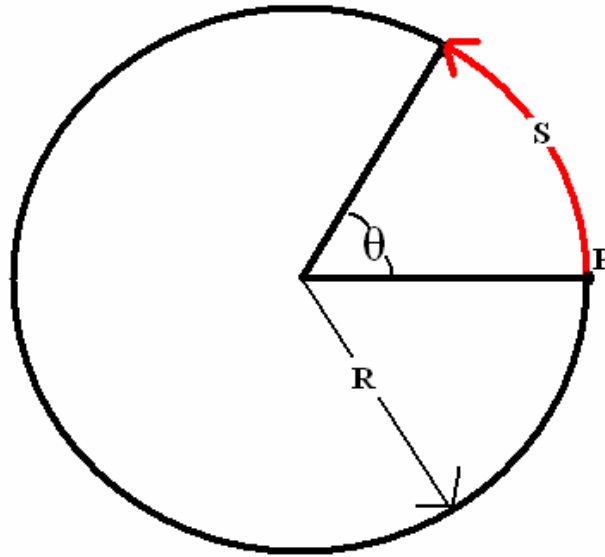

Figure 2
Consider a point P on the surface of a cylinder having a radius of R shown in Figure 2 above. If the cylinder is rotated about an axis perpendicular to the plane of the page and through the center of this circular cross-section, the arc length (S) swept out by P is given by: